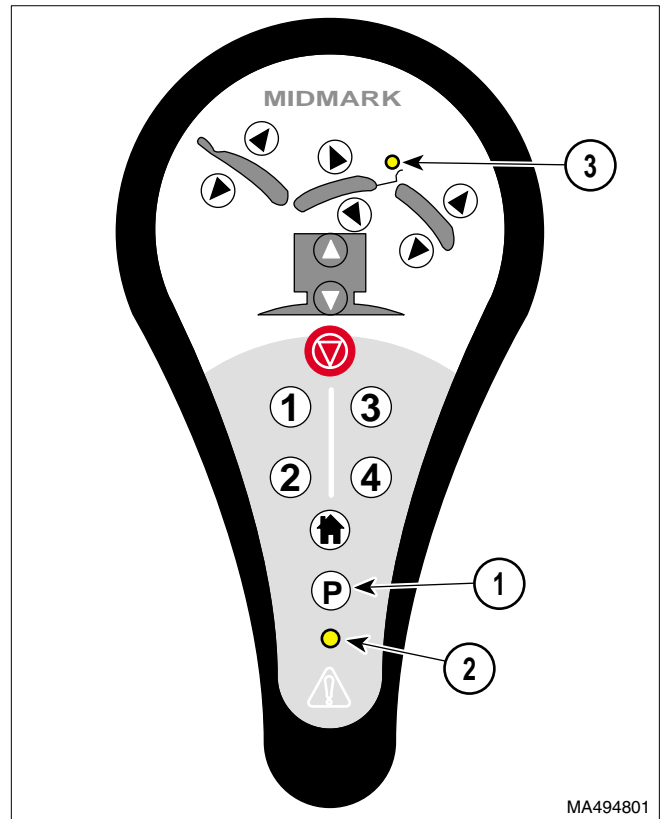

Figure 4-1. Clearing PC Control Board Memory
Figure 4-1 shows the hand control used with later units. The hand control used with early units differs slightly. The clearing procedure is the same for both styles.
- (2) Depress and hold the PROGRAM button (1, Figure 4-1) while simultaneously plugging the table power cord into the outlet receptacle.